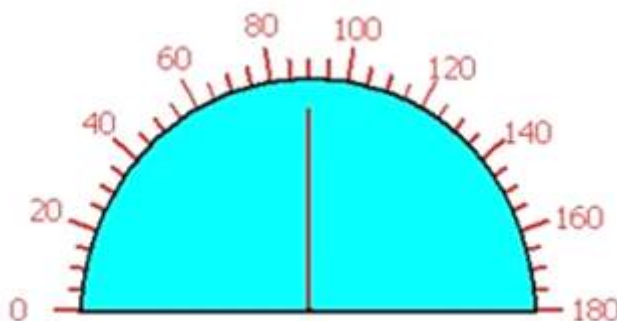

Figure 4-101
3. In screen edit area, press down left key of the mouse and drag the mouse to draw a Meter control. See Figure 4-101 for an example of Meter.